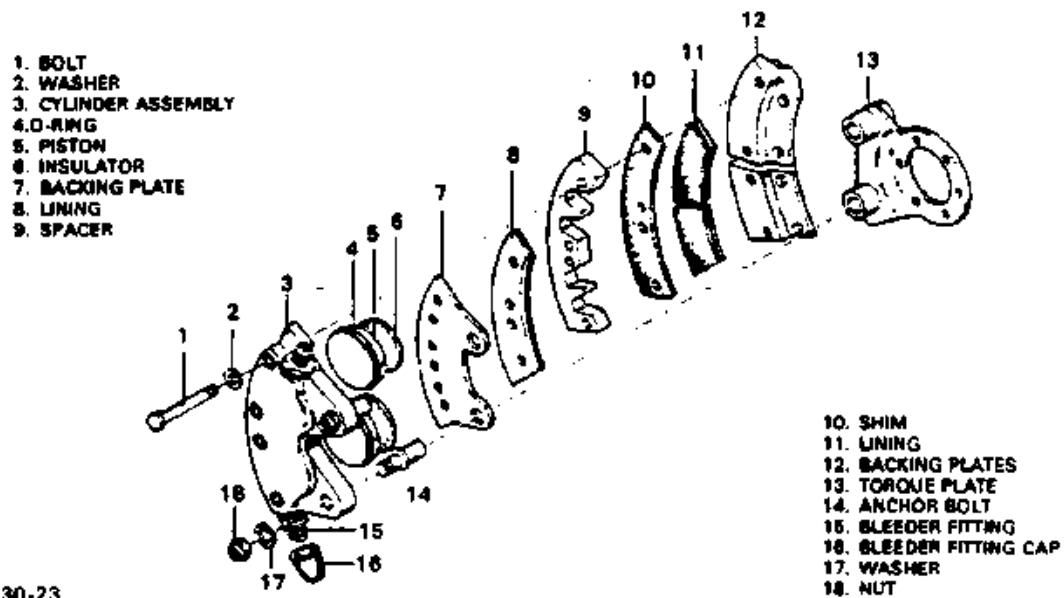

Figure 7-22. Wheel Brake Assembly
7-63. REMOVAL AND DISASSEMBLY OF WHEEL BRAKE ASSEMBLY. (Refer to Figure 7-22.)
**7-65. ASSEMBLY AND INSTALLATION OF WHEEL BRAKE ASSEMBLY.** (Refer to Figure 7-22.)
- a. Lubricate the piston "O" rings (4) with fluid (MIL-H-5606) and install on pistons (5).
- b. Slide the pistons in cylinder housing (3) until flush with surface of housing.
- c. Slide the lining pressure plate (7) onto the anchor bolts (14) of the housing.
- d. Slide the cylinder housing assembly on the torque plate (13) of the landing gear.
- e. Position the lining back plates (13) between the wheel and brake disc. Insert the spacer block (9) and spacer shim (10) between the back plates and cylinder housing, and install the four bolts (1) to secure the assembly. Torque to 60 inch-pounds and safety.